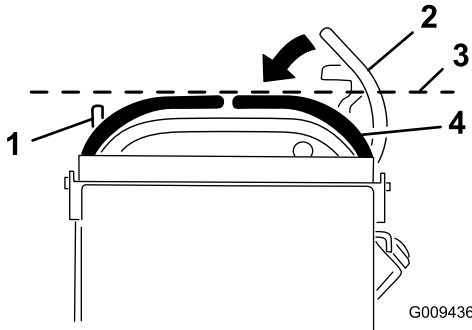

Figure 82
3. Push the motion-control levers down out of the NEUTRAL-LOCK position (Figure 82).
4. Check if the right motion-control lever aligns horizontally with the left motion-control lever (Figure 82).